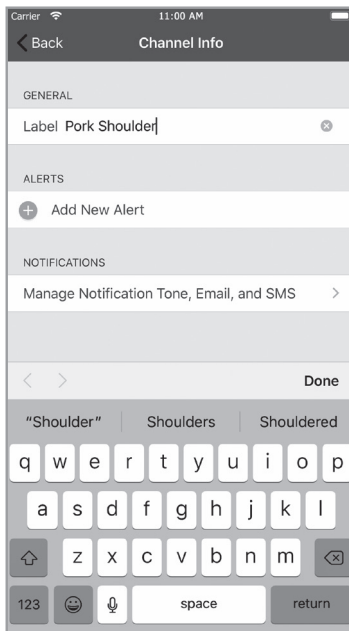

FIG 29
- The names of the two probe ports can be set according to what you're cooking. Tapping on the probe port in the grey banner will allow you to change its name (**FIG 29**). This name will also be used in the various charts throughout the app.
- An alert – in the form of an app alert, an SMS text message, or an email – can be set to let you know when one of the meat probes are at a certain temp. Simply tap on the temperature shown for the probe in the gray banner, tapping “Add New Alert,” then “Set-up Alert” and set up your parameters (**FIG 29, 30**).